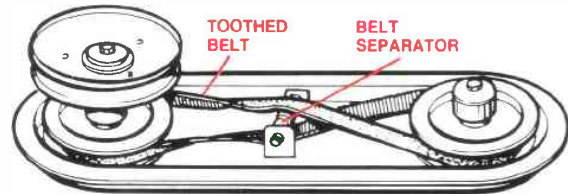

Figure 9. Toothed Belt Replacement.
**NOTE:** Take particular care to get the correct lay of the belt over the Belt Separator (See figure 9). Also ensure the blades are set at 90° to each other.